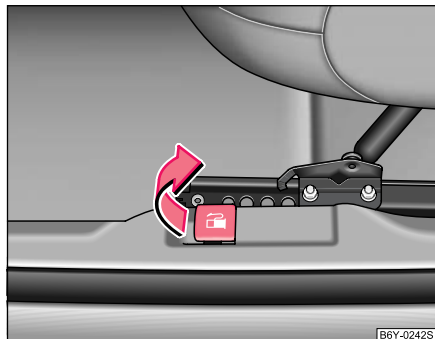

Fig. 121 Opening lever for the fuel tank flap
- The fuel filler flap opens when you pull on the actuation lever* next to the driver's seat $\Rightarrow$ fig. 121 or open at fuel filler tube.
- Unscrew the fuel filler cap anti-clockwise and place the fuel filler cap from above on the fuel filler flap $\Rightarrow$ fig. 121.